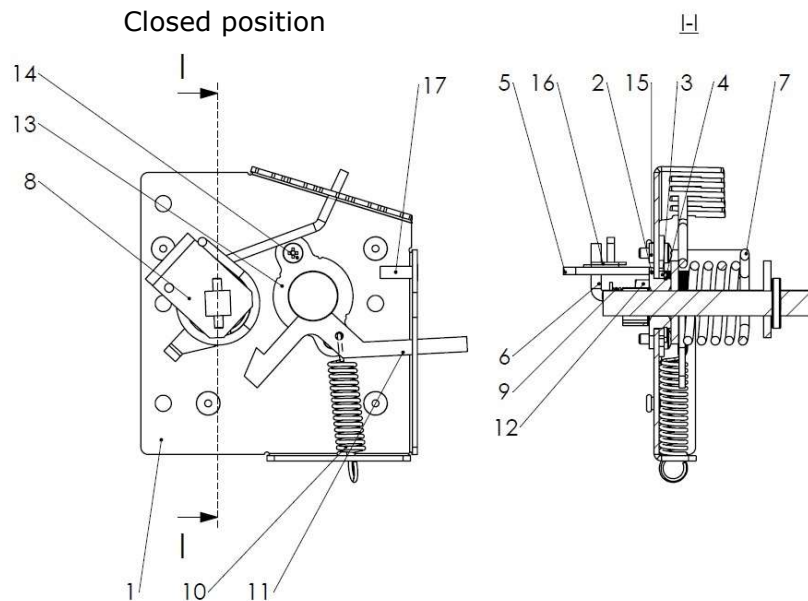

Figure 18. Spring mechanism – replacement of the thermal fuse element
- For battery consisting of four KWP-O-Ex fire: $(B1+B2+180) \times (H1+H2+180)$ (Figure 18),